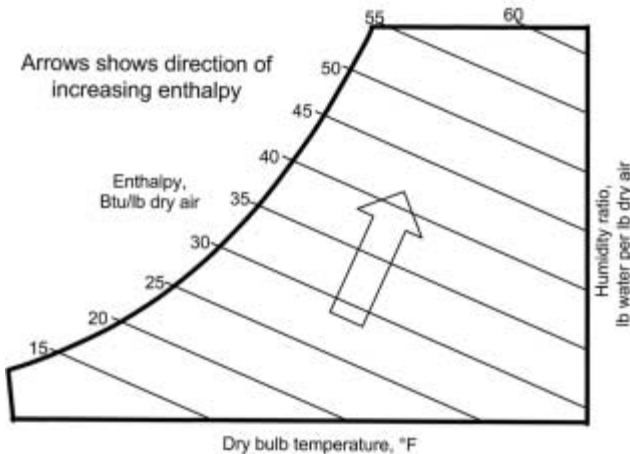

FIGURE 2.7 Psychrometric chart showing lines of constant enthalpy.
- The *enthalpy* of the moist air is the sum of the enthalpies of the air and the water vapor. The enthalpy, with units of Btu per pound of air, is used to determine how much energy needs to be added or removed from air to heat or cool the air. Figure 2.7 shows how the enthalpy changes in the psychrometric chart. Note that the lines of constant enthalpy are parallel to those of constant wet-bulb, so take care not to confuse the two.